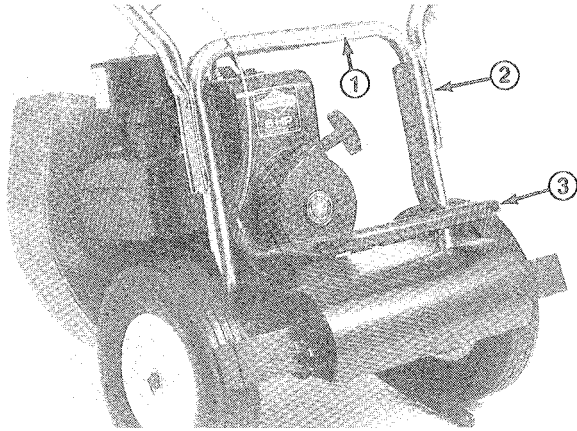

Figure 1
1. Attach upper handle to lower handle with four capscrews and locknuts (Fig. 1). On self-propelled models, secure bag support to inside of lower handle while mounting handle.